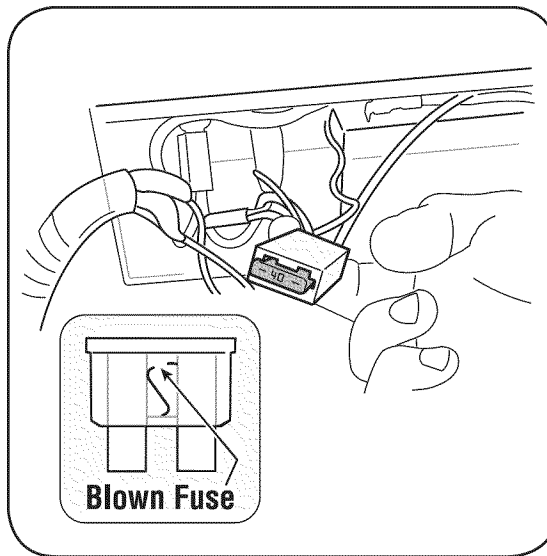

Figure 11
2. Remove fuse from socket and inspect as shown in Figure 11. If it is burned out, replace with standard automotive 40 ampere fuse.